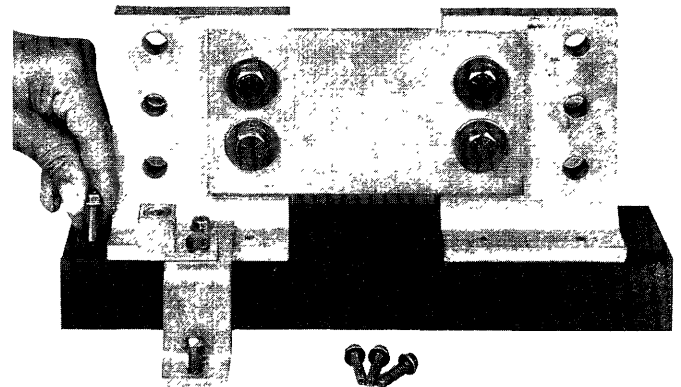

Figure 3. Attaching the neutral block to the back panel with the screws provided.
3. Attach the neutral block to the back panel with the four $\frac{1}{4}$ -20 x $\frac{7}{8}$ " screws provided, as shown in Figure 3. Tighten the screws to 40–50 lb-in.